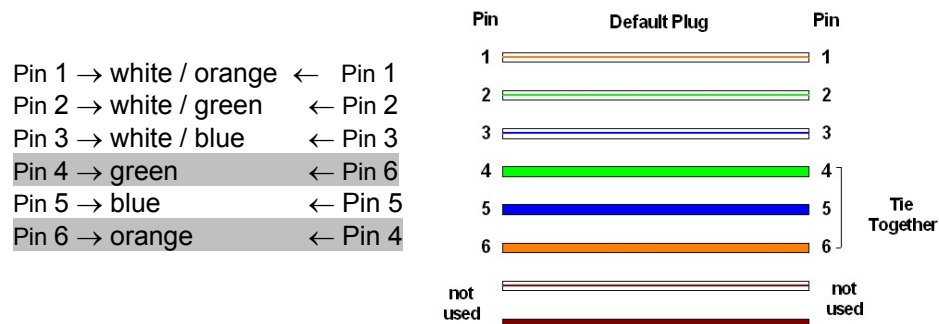

Figure 146: RJ-11 pinout for the override plug
3. Short (solder together) Pins 4 and 6 on the other end. Do not connect any other wires to anything. The result should be as shown in Figure 146.